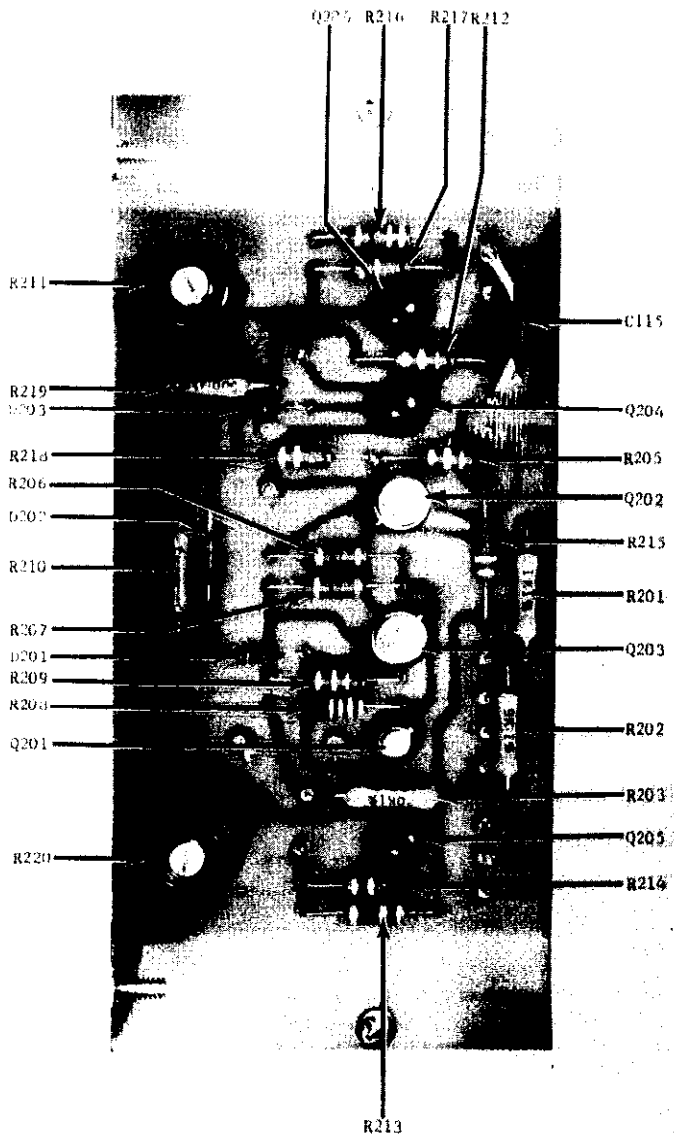

FIGURE 24. Component Locations on Printed Circuit PC-114.
b. Turn the Model 601 on. Zero the meter on the .001-volt range. Then switch to the 10-volt range. Set the Multiplier Switch to 10; apply 10 volts  $\pm 0.05\%$  to the Model 601 INPUT Receptacle. Adjust the METER CAL potentiometer, R220 (Figure 24), for full scale meter reading.
c. Set the center zero by first zeroing the meter on the .001-volt range. Then switch to the 1-volt range. Set the METER Switch to CENTER ZERO and adjust the CENTER ZERO CAL potentiometer, R211 (Figure 24), for exact center-scale meter zero.